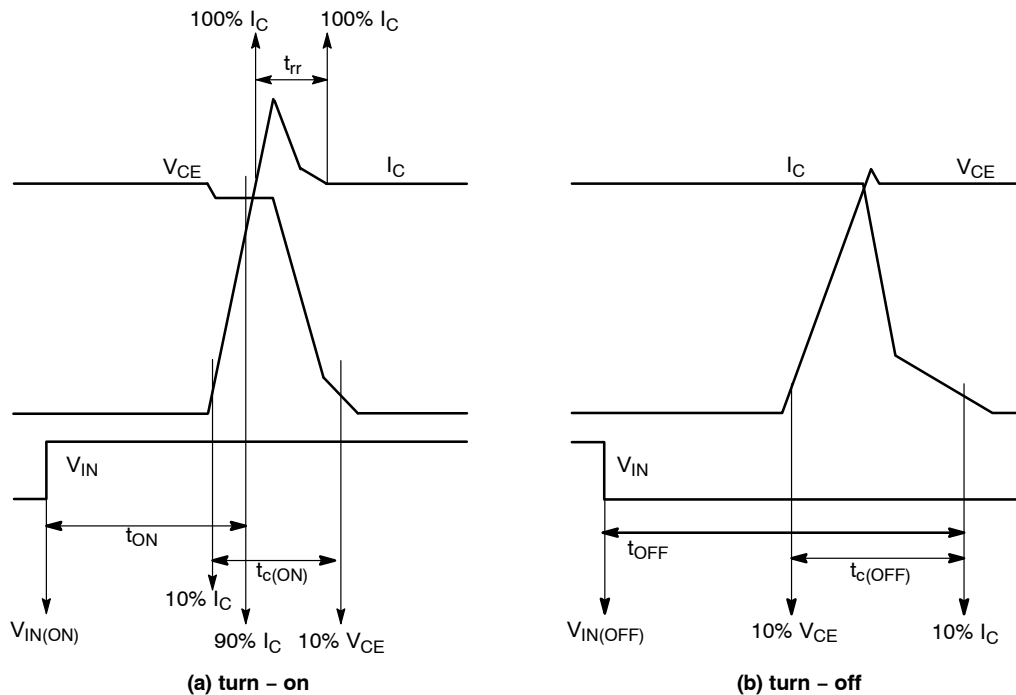

Figure 3. Switching Time Definition
6. t_{ON} and t_{OFF} include the propagation delay time of the internal drive IC. t_{C(ON)} and t_{C(OFF)} are the switching time of IGBT itself under the given gate driving condition internally. For the detailed information see Figure 3.